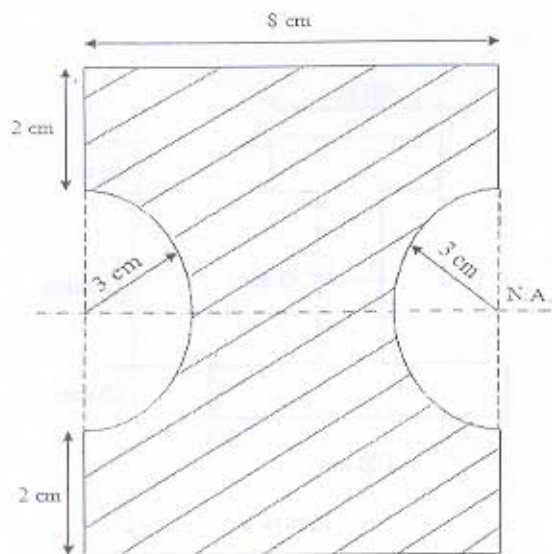

Figure 7
- (b) The section of a beam shown in **Figure 7** is subjected to a shear force of 200 kN. Determine the shear stress at significant points and sketch the shear stress distribution diagram. [07]